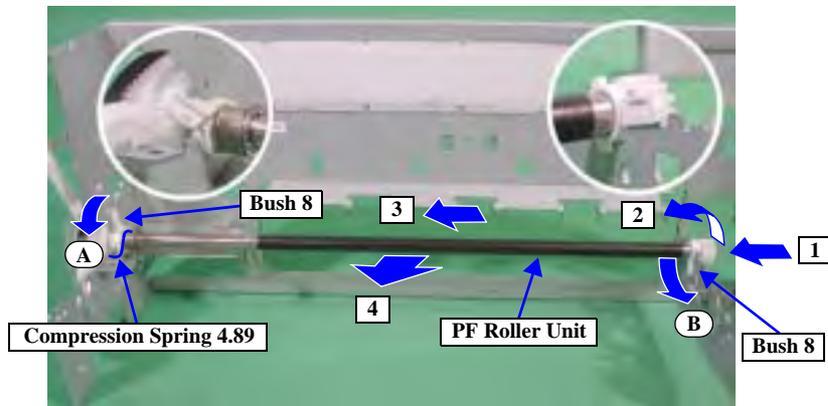

Figure 4-77. PF Roller Unit Removal
4. Follow the order shown in Figure 4-77 to remove PF Roller Unit from Printer Mechanism.